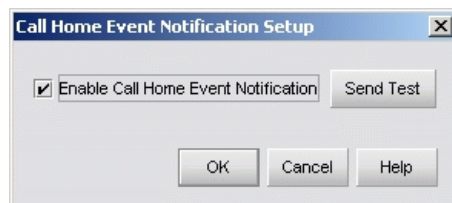

Figure 2-103 Call Home Event Notification Setup Dialog Box
2. At the SANavigator or EFCM main window, select the *Event Notification* and *Call Home* options from the *Monitor* menu. The *Call Home Event Notification Setup* dialog box displays (Figure 2-103).